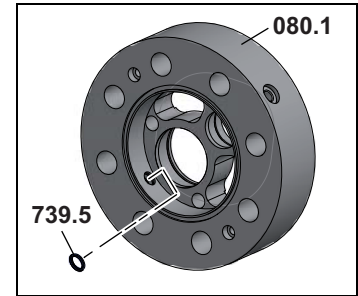

Fig. 24
10. Remove the o-ring **739.5** through the hole in the center from the bearing cover **080.1**, see Fig. 24, page 36.